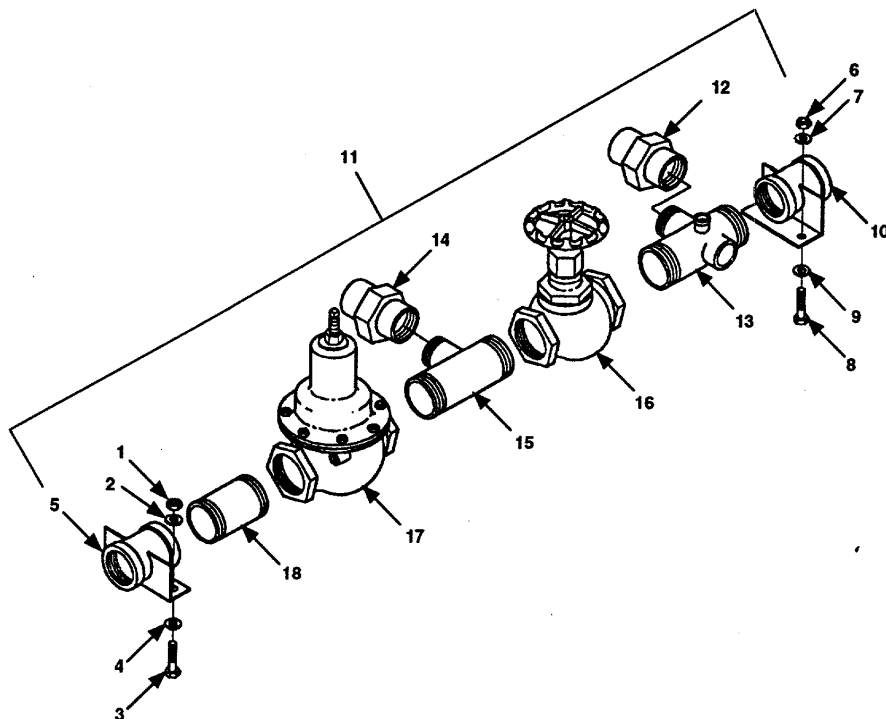

Figure 4-20. Manifold Assembly Maintenance
- a. Remove two nuts (Figure 4-20, 1) lock washers (2), bolts (3) and flat washers (4) from outlet support coupling (5). Discard lock washers (2).
- b. Remove two nuts (6), lock washers (7), bolts (8), and flat washers (9) from inlet support coupling (10). Discard lock washers (7).
- c. Remove manifold assembly (11) from hypochlorination unit.
- a. Unscrew and remove union (12) from inlet nipple (13).
- b. Unscrew and remove union (14) from outlet nipple (15).
- c. Remove inlet support coupling (10) from inlet nipple (13).
- d. Remove inlet nipple (13) from 2 inch globe valve assembly (16).
- e. Remove 2 inch globe valve assembly (16) from outlet nipple (15).
- f. Remove outlet nipple (15) from pressure regulating valve (17).
- g. Remove pressure regulating valve (17) from pipe nipple (18).